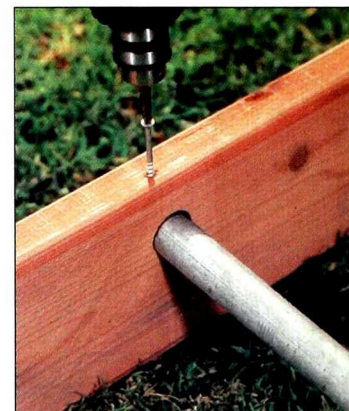

Figure 7: The monkey bars are pinned into the 2x6 rails by drilling a pilot hole and then driving in a 3-inch screw from the top side.
- Build the horizontal monkey bar ladder using a spade bit to drill the pipe holes. Don't let the bit's pilot come through the opposite side of the 2x6 (Figure 7). Let the 2x6s run long to be trimmed later.